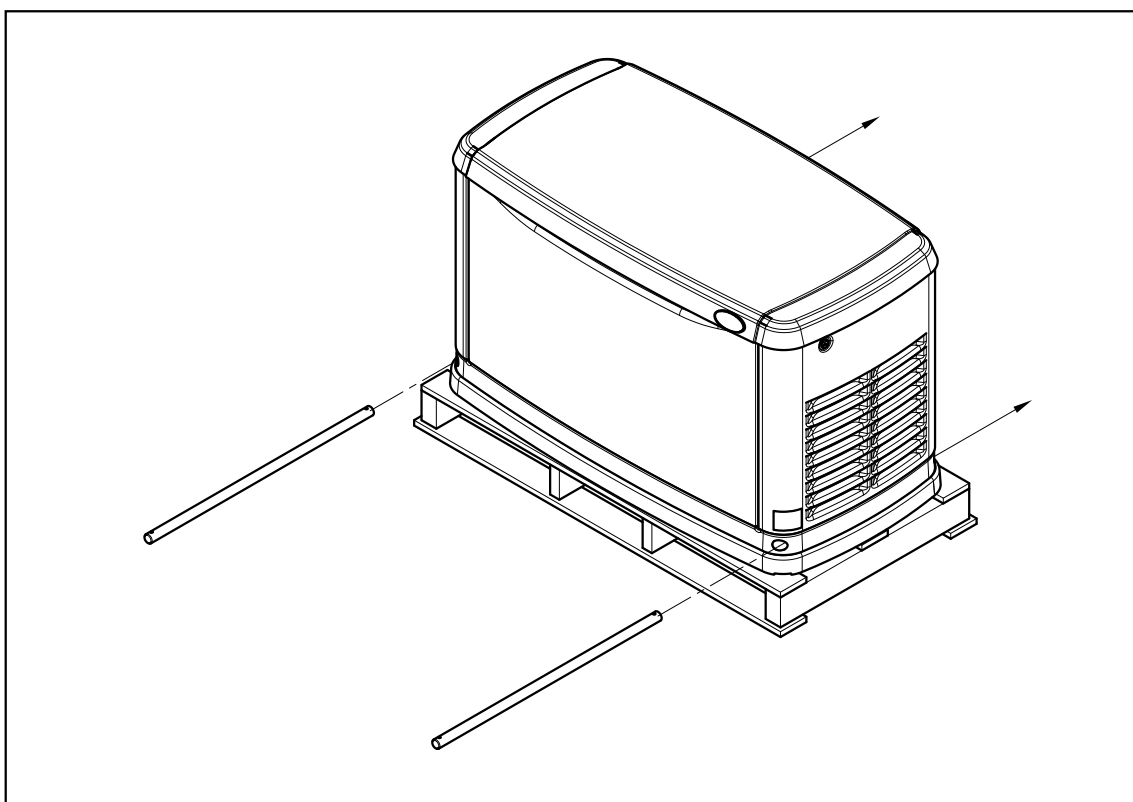

Figure 2
Step 2.) Slide lifting rods through generator base holes as shown below. (See figure 2)